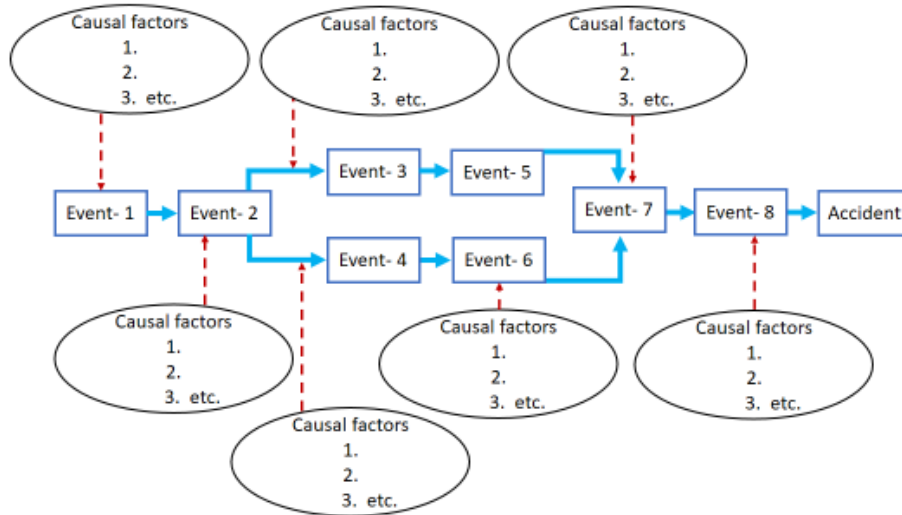

Figure 2: Schematic of Event & Causal Factors Sequence Diagram (ECFSD)
- 18) Generating an Event and Causal Factors Sequence Diagram (ECFSD) (Figure 2 & 3)
- 19) Classifying the causal factors in different category like Organisational Factors (OF), Task Environment (TE), Work Environment (WE), Human Factors (HF) and Failed Defences (FD).